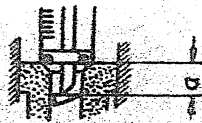

Fig. 34
- b) the distance from the plunger face to the plunger barrel end should be 9.4 ± 0.1 mm (see Fig. 34).